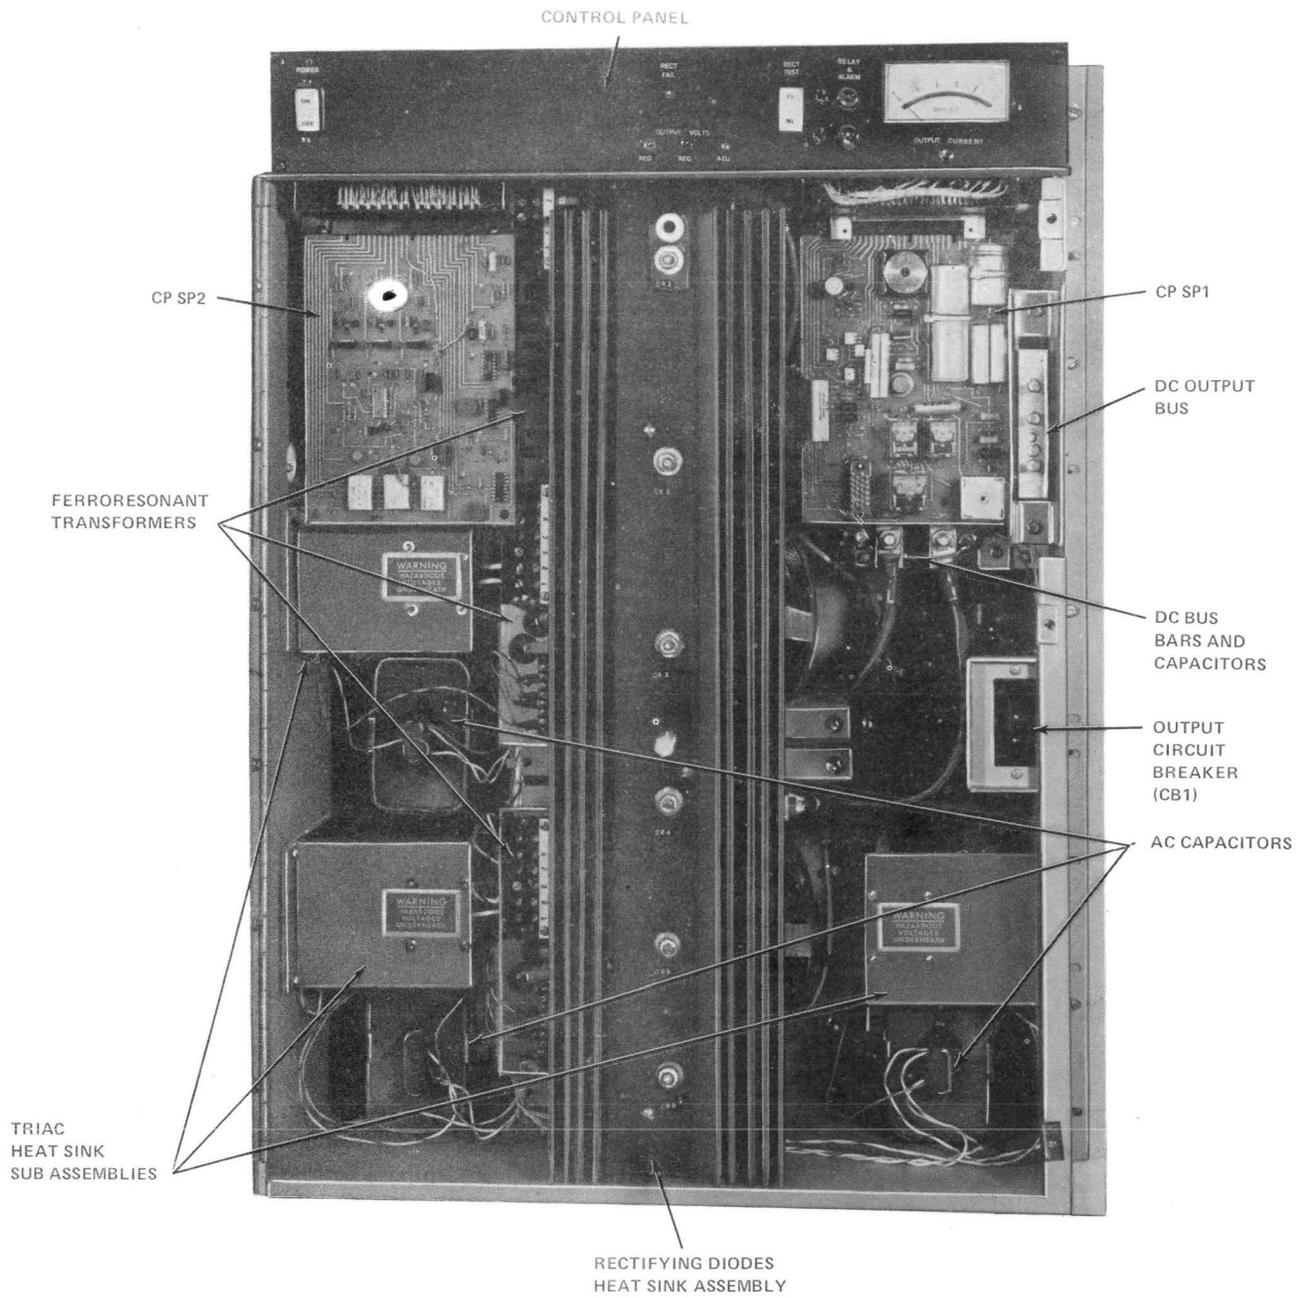
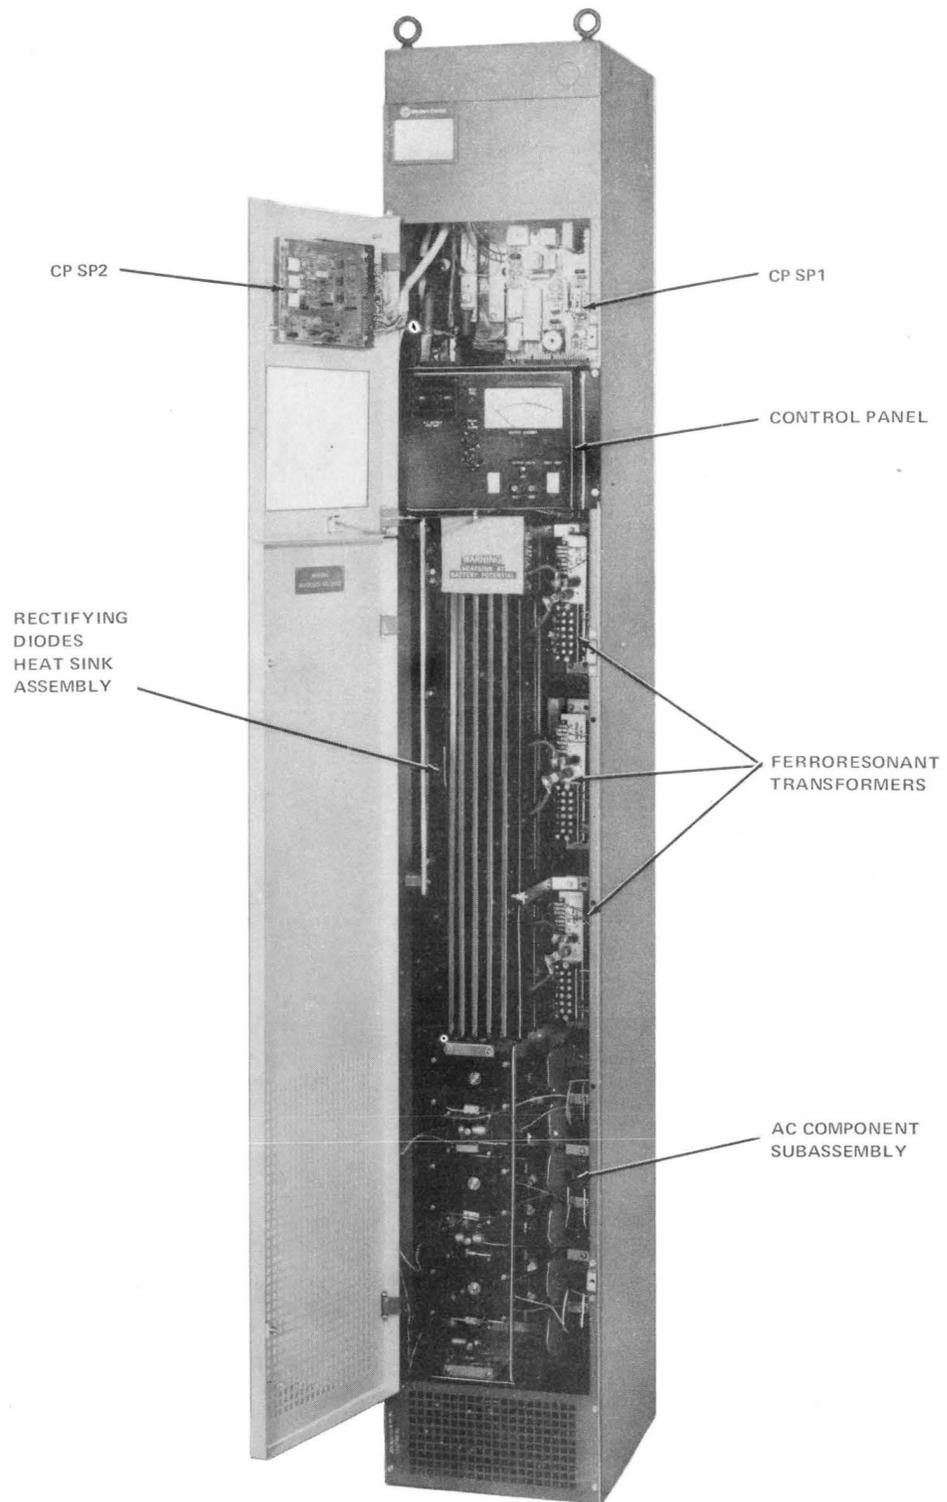

Fig. 5—J87437A, L1 and L3, or L2 and L3, Rectifier—Front Panel Open
Fig. 6—J87439A, L1 or L2, Rectifier—Front Panels Open
**2.05** The front panel of the J87437A rectifier swings open to allow access to components inside (Fig. 5). On the J87439A rectifier, there are two front panels—an upper panel and a lower panel—which swing open independently (Fig. 6). The rectifier contains three ferroresonant transformers; one for each ac input phase. A large heat sink holding the rectifying diodes is mounted over the transformers. The regulation, control, and alarm circuits are contained on two printed wiring boards (CP SP1 and CP SP2 or  $\blacklozenge$ CP SP2B $\blacklozenge$ ) which plug into connectors inside the rectifier. Other rectifier components include triac heat sink assemblies, ac capacitors, iron-core inductors, and dc output capacitors and bus bars.